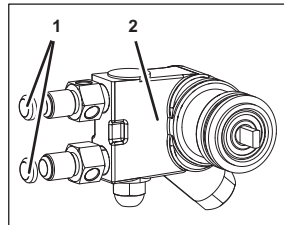

Figure 61
5. Replace the seals (Figure 61/1) of the carbonator pump (Figure 61/2).